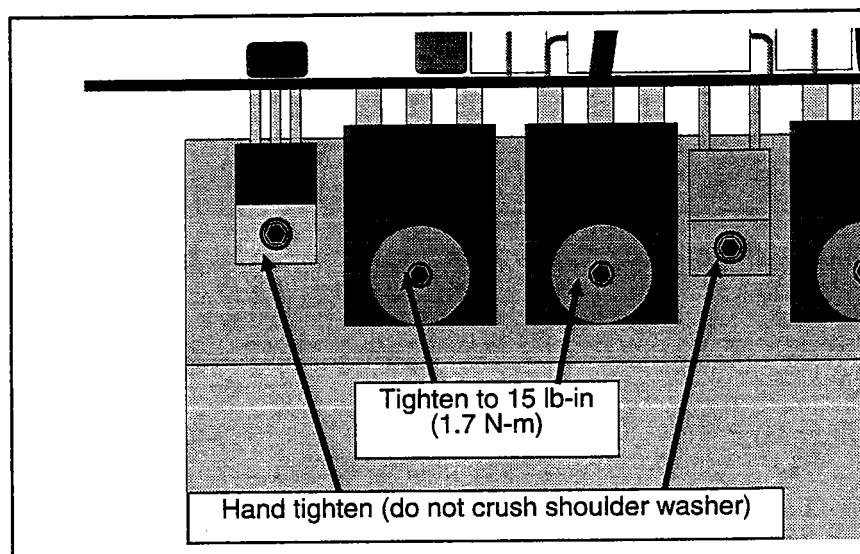

Figure 5-7. Transistor Mounts
- 9 Replace the transistor's mounting screw. Tighten the mounting screws of the large power transistors to 15 lb.-in (1.7 N-m). Over tightening will damage the mica and/or deform the coolsil insulator. Carefully hand-tighten the mounting screws of the smaller devices enough to hold firmly without crushing the shoulder washer, which would short the device to the heatsink. Replace the shoulder washer if it is damaged. (Figure 5-7)